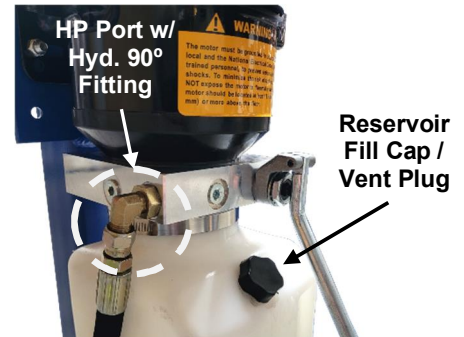
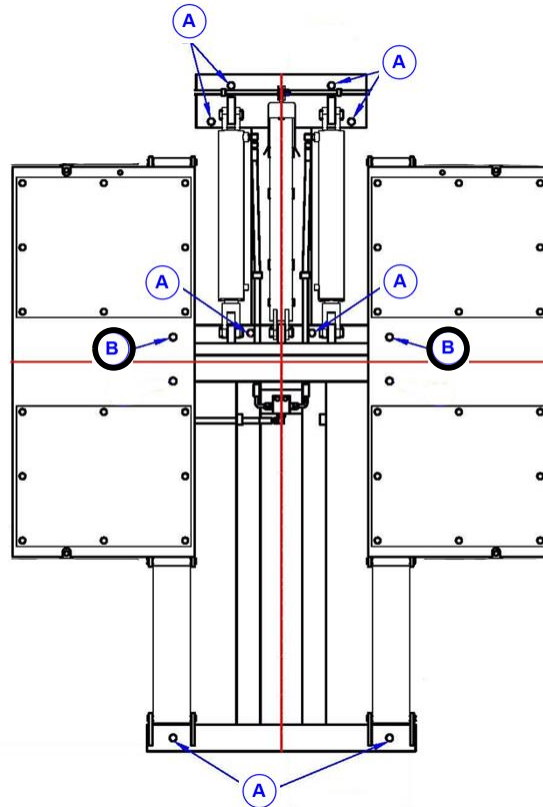

Fig. 6
Fig. 8
- 6) Using the **Hydraulic 90° Fitting** from the hardware box, install to the **HP Port** on power unit. **Fig. 6.**
- 7) Locate the **Long Hydraulic Hose** from the hardware box and connect one end to the **Hydraulic 90° Fitting** installed on power unit. **Fig 6.**
- 9) Remove Fill Cap / Vent Plug to add **Hydraulic Oil (SAE-10, AW 32)** to **115V Power Unit Reservoir Tank**, Add to Min. fill line on Drip Stick, approx. **1.5 gallons (6 quarts)** **Fig. 6. NOTE: Do Not Use ATF!!**
- 2) Remove Fill Cap / Vent Plug to add Hydraulic Oil (SAE-10, AW 32) to 220V Power Unit Reservoir Tank, Add to Min. fill line on Drip Stick, approx. 3 gallons (12 quarts), Fig. 6. **NOTE: Do Not Use ATF!!**
Step 6: Anchoring Lift (B)
- 1) To install the remaining 3/4+ anchor bolts (B) to finish securing the pad lift base structure to concrete surface, the pad lift will need to be raised. Plug in 115V power unit and push the start button on side of switch box to raise the pad lift platform. Raise lift to max height.
- 2) With the pad lift in the raised position, now install the remaining **2ea 3/4" (19mm)** anchor bolts to secure the pad lift base structure. Use the base holes as a guide, and drill holes for the **2ea (B)** anchor bolt hole locations, using a rotary hammer drill and 19mm (3/4+) Masonry Drill Bit. **Fig. 8.**